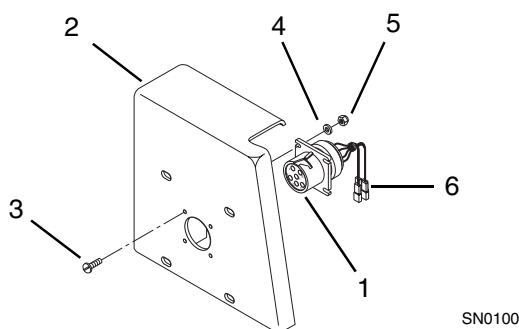

Figure 9-72 Front Door Harness Connector
- r. Mount the front door harness connector (Fig. 9-72, 1) to the inside of the new fuse block cover (2), using four #4-40 x 1/2" slotted pan head screws (3), washers (4) and #4-40 hex lock elastic nuts (5).
- s. Connect the four wires (2F, 18, 18A and 31A) coming from the front door harness (Fig. 9-72, 6) to the appropriate wires on the replacement Operator's Protective Structure wire harness (Refer to Section 8.11.12, "Enclosed Cab Heater & Door Harness Electrical Diagram").